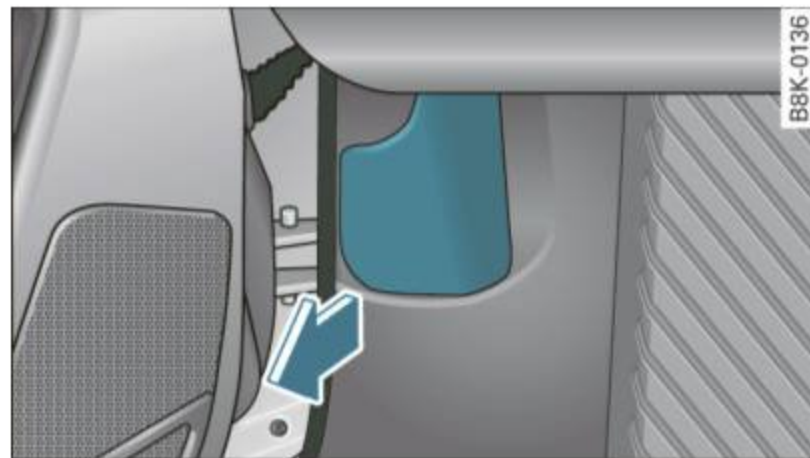

Fig. 203 Driver's side footwell: engine hood release lever
- Pull the release lever on the left under the instrument panel ⇒ fig. 203 in the direction of the arrow.